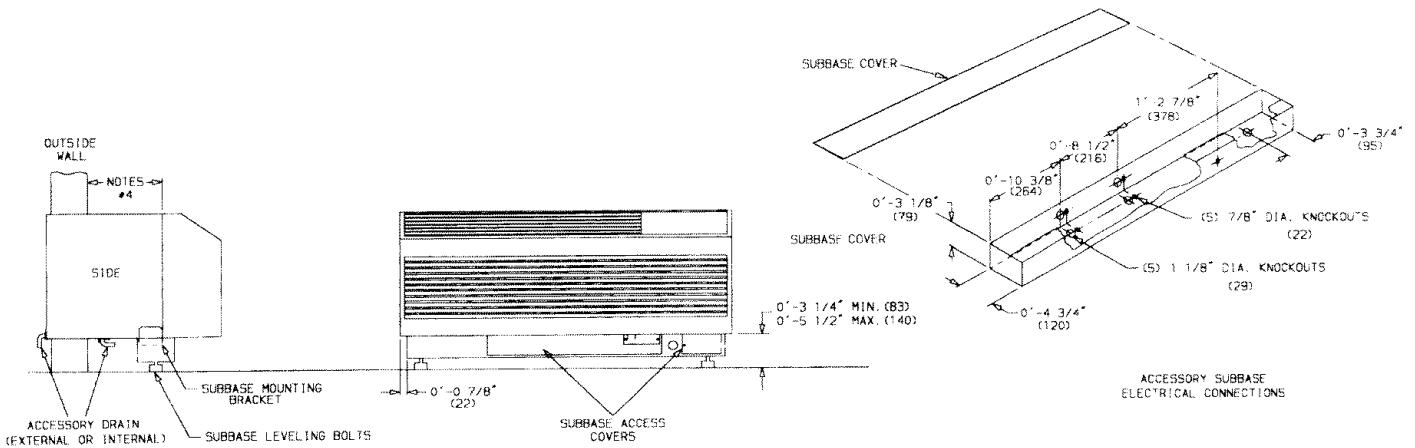

FIGURE 8 — 52S WITH SUBBASE
**IMPORTANT:** If more than 4 in. of the sleeve projects into the room or the wall is less than 2 in. thick, an accessory subbase must be used for support. Refer to Figure 8.